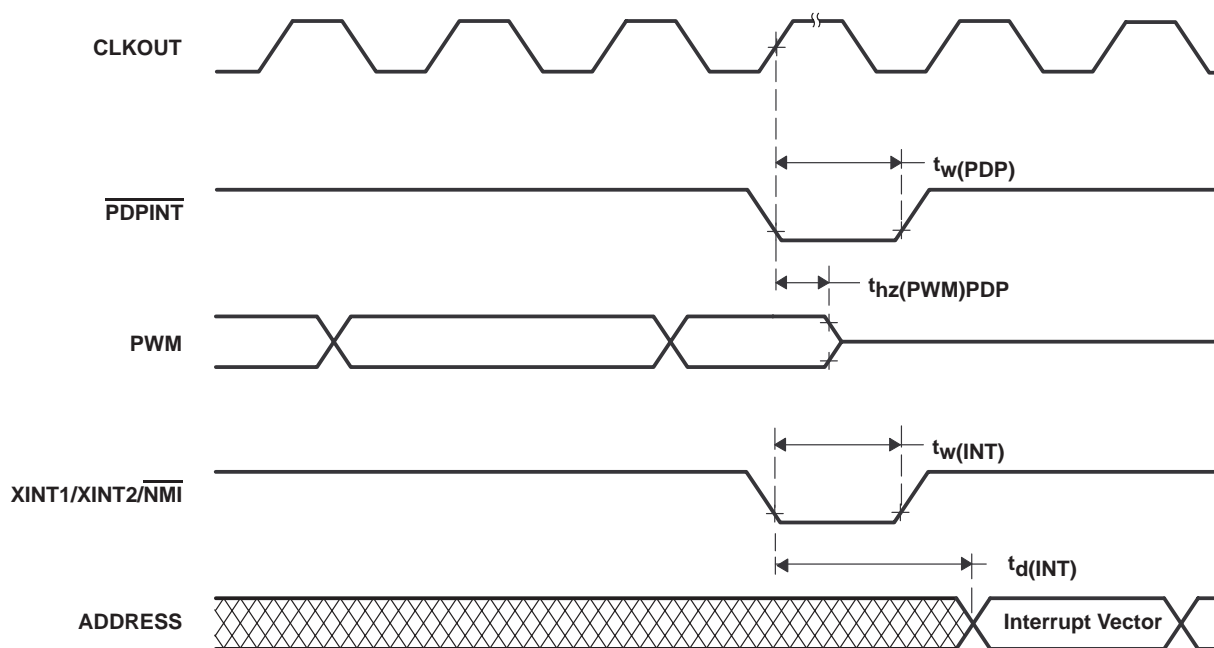

Figure 27.  $\overline{\text{PDPINT}}$  and External Interrupt Timings
**switching characteristics over recommended operating conditions (see Figure 27)**
**timing requirements [ $H = 0.5t_{\text{c(CO)}}$ ] (see Figure 27)**